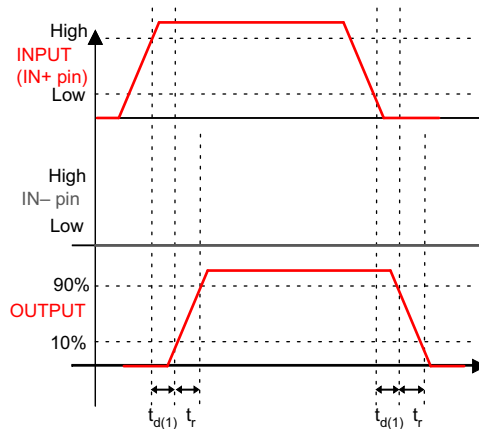
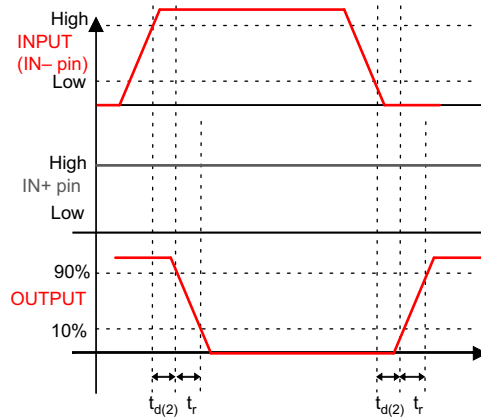

Figure 5-1. Non-Inverting Configuration (PWM Input to IN+ pin (IN– Pin Tied to GND), Output Represents OUTH and OUTL Pins Tied Together in the UCC27511A-Q1)
図 5-2. Inverting Configuration (PWM Input to IN– Pin (IN+ Pin Tied to V_{DD}), Output Represents OUTH and OUTL Pins Tied Together in the UCC27511A-Q1)
$V_{DD} = 12\text{ V}$, $T_A = T_J = -40^\circ\text{C}$ to 140°C , $1\text{-}\mu\text{F}$ capacitor from V_{DD} to GND. Currents are positive into, negative out of the specified terminal. See Figure 5-1, Figure 5-2, Figure 5-3, and Figure 5-4
(1) See timing diagrams in Figure 5-1, Figure 5-2, Figure 5-3, and Figure 5-4.